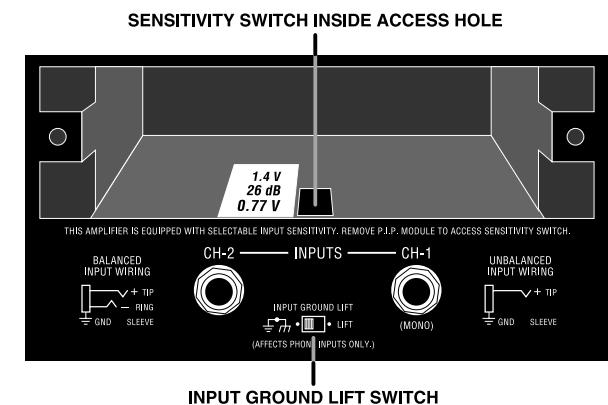

Figure 5.1 Input Sensitivity and Ground Lift Switches
The Input Sensitivity Switch is located inside the back of the amplifier (Figure 5.1). It is set at the factory to 0.775 volt for rated output into 8 ohms. It can also be switched to a sensitivity of 1.4 volts, or a fixed voltage gain of 26 dB (4.8 volts for rated output).
3. Locate the sensitivity switch access hole inside the chassis opening as shown in Figure 5.1. It is located just above the phone jack inputs.
The Input Ground Lift switch is located on the rear panel (Figure 5.1) and can provide isolation between the input signal ground and the AC ground. It affects only the phone jack inputs and has no effect on the input connectors on the PIP module. Sliding the switch to the left isolates or "lifts" the grounds by placing an impedance between the sleeve of each phone jack and the circuit ground.